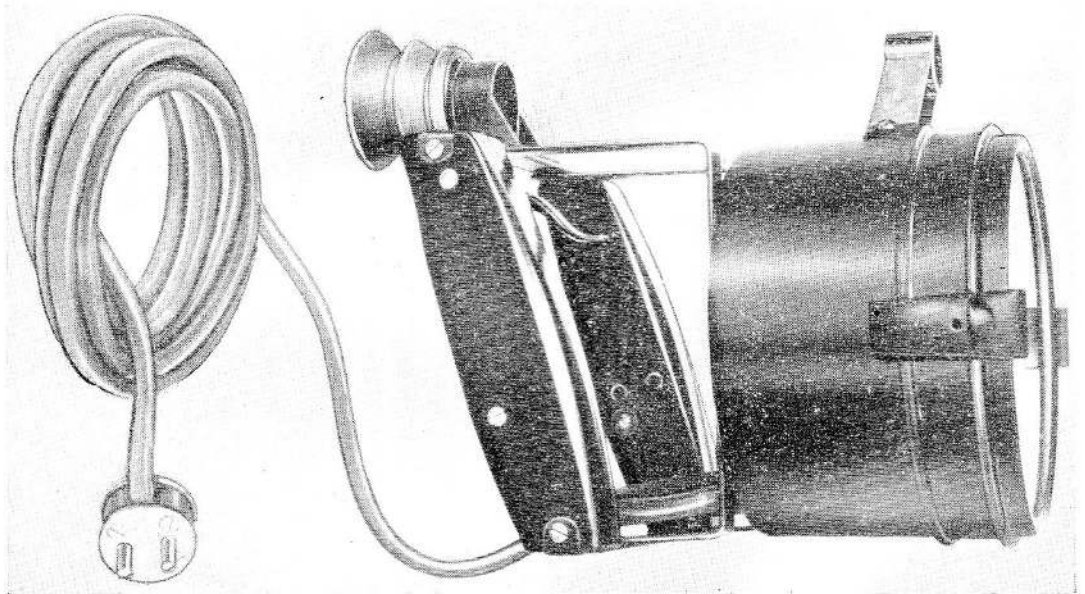
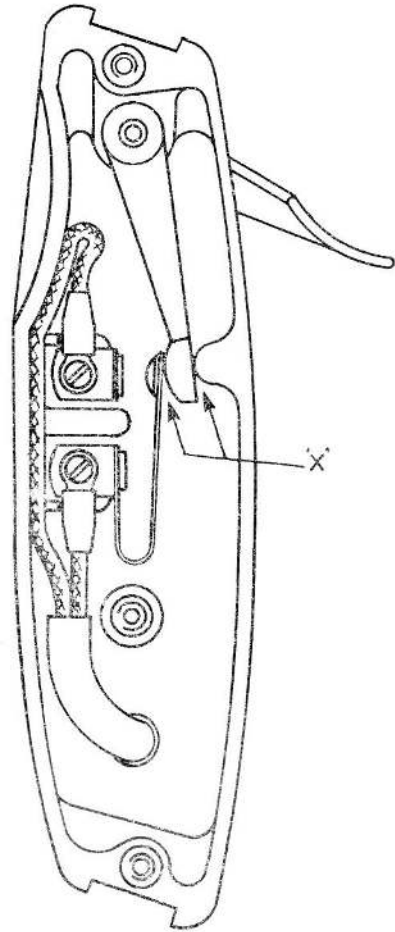

Fig. 1. Signalling lamp, Type B
Fig. 3. Right-hand handle assembly of Type B, Mk. 2 lamp
Signalling lamp, Type B	Fig. 1
frames. The Type B is the lamp shown in fig. 1 and fig. 2, and details of the Type B Mark 2 switch and right-hand handle assembly are shown in fig. 3. The lamp comprises a paraboloidal reflector which has the lampholder and filament lamp at its centre enclosed within a cylindrical body. The rim of the reflector is spun back to fit over the front of the body and has two pierced holes, one at the 6 o'clock position and one at the 11 o'clock position when viewed from the front. A locating rivet and a spring catch on the lamp body engage with these holes and locate and retain the reflector in the lamp body. The front cover fits over the reflector rim onto the lamp body and is secured by two spring clips which are hinged to the body. The handles are attached to the rear of the body by two frames which are braced by two cross struts. A pair of aperture sights, which are in alignment with the axis of the reflector and the light beam, are mounted one on top of the body and one on the top bracing strut.
3. The lamps are supplied complete with the supply wandering lead and plug but without the filament lamp. The two core, Duprensheathround 6, cable is protected by a rubber sleeve at the entry to the lamp body, and connects to a side contact on the lamp holder and to an insulated terminal on the filament lamp contact block. A connection is taken from the insulated terminal to one side of the trigger switch in the right-hand handle assembly, a second connection from the other side of the trigger switch is connected to the leaf-spring contact in the lamp contact block. The trigger switch is a single-pole switch operated by a mechanically linked trigger. In the Type B lamp the switch has a rigid contact arm coupled to the trigger mechanism and is spring-loaded by a helical spring, connection to the arm-contact is made by a flexible connection as shown in fig. 2. In the Type B Mark 2 lamp the rigid contact arm is replaced by a leaf-spring contact which is operated by an actuating lever coupled to the trigger mechanism as shown in fig. 3. Carrier cases (stowage boxes) are provided one for the complete lamp and a separate box for the alternative coloured front screens; when not in use the lamp and the spare screens should be returned to their respective carrier cases.
9. Lubrication of the trigger pivot-pin bearing surfaces, and of the mating surfaces of the actuating lever and contact spring (Mark 2 lamps only, shown 'X' in fig. 3) may be lightly smeared with grease XG315. This should only be necessary every 12 months during normal use, and every care must be taken to use the lubricant sparingly to avoid contamination of the contacts.